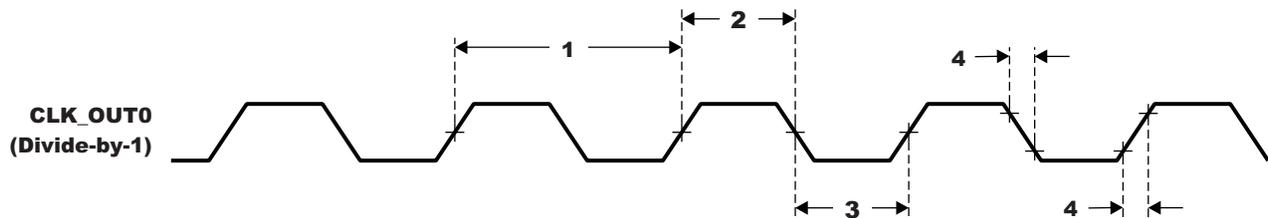

Figure 6-13. CLKOUT0 Timing
Table 6-20. Switching Characteristics Over Recommended Operating Conditions for CLKOUT0 (1)(2) (see Figure 6-13)